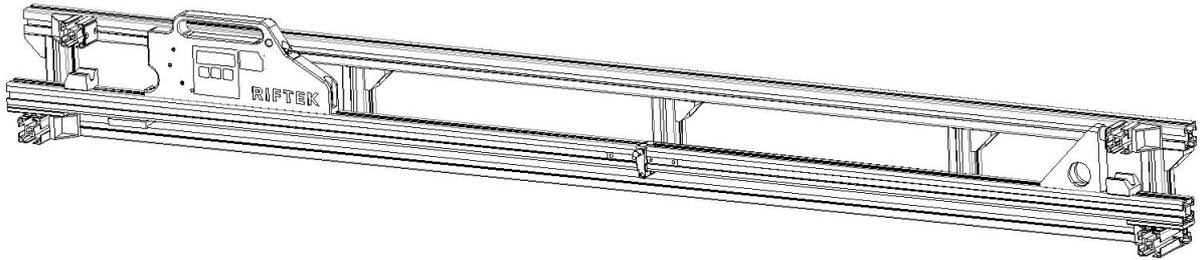

Figure 4
- Press the **Green** button, and the length value starts blinking, which means that the device must be placed onto the calibration tool. The measurement tip and support ball of the gauge must be tightly fitted to the flat plates of the calibration tool (figure 4).